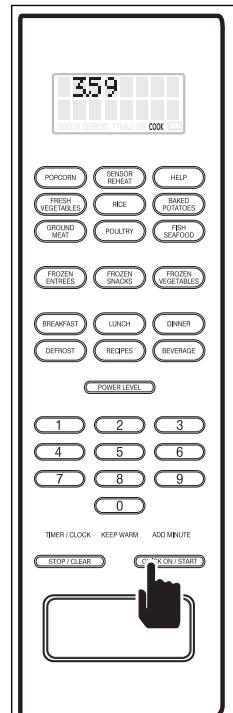

Figure 3-48.
7. Press the QUICK ON/START key to begin. The oven will energize, the display will show the countdown, starting with first input (See Figure 3-48), and the control will automatically switch from one time and power level to the next. At the end of Multiple Sequence Feature, "END" will flash on the display and the alarm will beep.